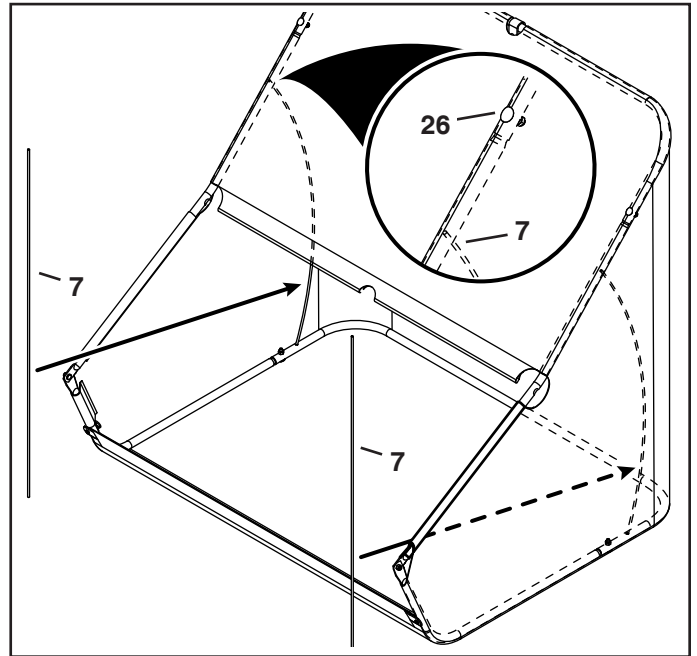

FIGURE 15
STEP 15: (SEE FIGURE 15)
- Insert the hopper support rods (7) into the hole beneath the curved head bolt (26) in each upper hopper tube. Flex and insert the rod into the hole in the bottom rear hopper tubes as shown.
NOTE: The hopper support rods will flex about as much as shown in figure 15 when they are assembled.